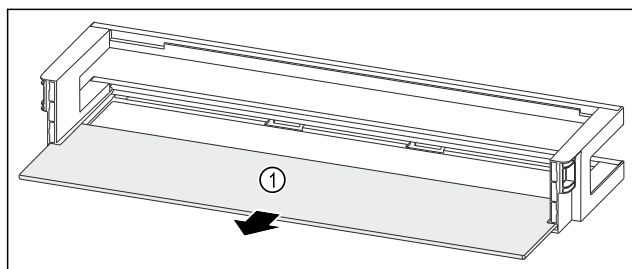

Fig. 99 Door rack with shelf
- Remove the shelf Fig. 99 (1).